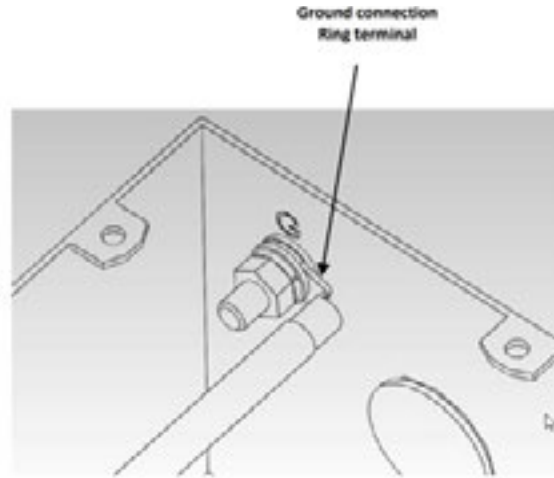

Figure 5: Signal Filter Ground Terminal
3. Remove loose hardware supplied on the ground screw terminal marked with the Green label and install a ground wire identical in size and insulation rating to the grounded and ungrounded circuit supplied conductor, except it shall be colored Green or Green-Yellow. Use a crimped or solder-type ring connector (not supplied, see Figure 5).